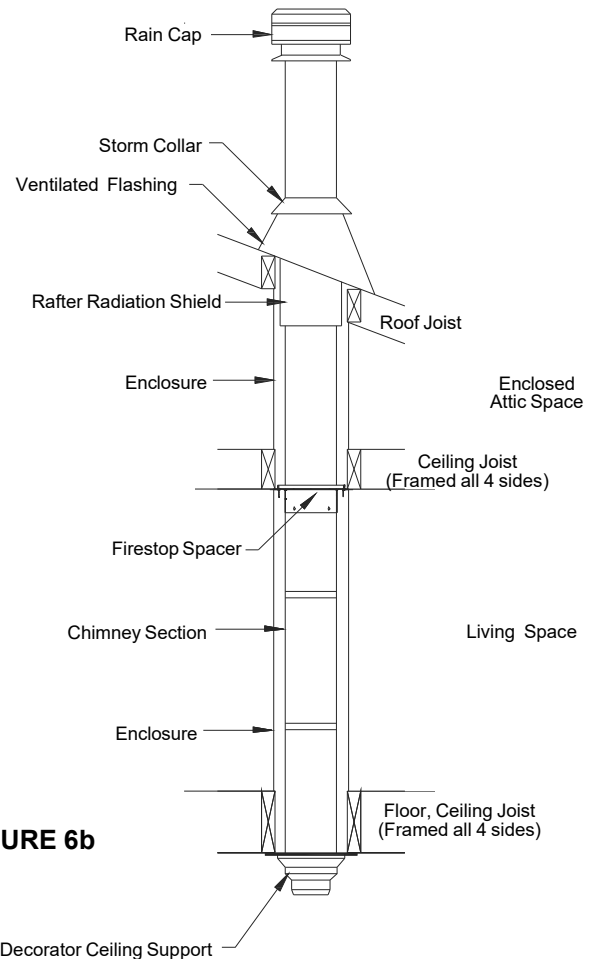

FIGURE 6b
When the chimney is enclosed in the attic space below the roofline - FIGURE 6b:
- Where the chimney in the attic space is enclosed, you can substitute the Attic Insulation Shield (AIS) with the Firestop Spacer (FS) installed at the ceiling level (see Figure 6b).
- Install the Rafter Radiation Shield at the roof level (see Figure 6b).